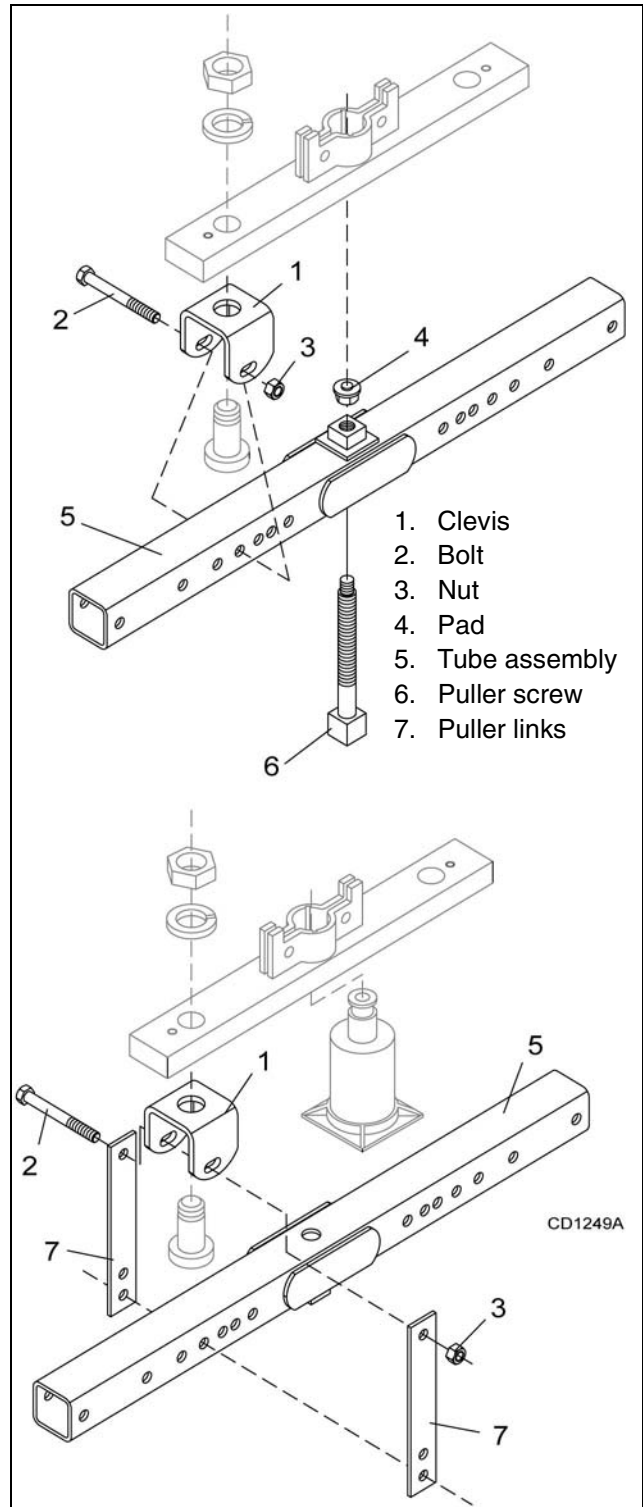

Figure 15. Crossbar Removal
NOTE: You will need to use either the puller screw (Item 6, Figure 15) or a small hydraulic jack to remove the crossbar.
3. **Refer to Figure 15.** Remove retaining wire from bottom of crossbar and remove nut and washer.
4. Attach a clevis (1) to each end of crossbar, using blade pins, washers, and nut.
5. Position tube assembly (5) with threaded nut toward crossbar for puller screw removal or down for hydraulic jack removal.
6. For removal with puller screw, attach tube (5) to each clevis with bolts (2) and nuts (3). Place pad (4) in nut and thread puller screw (6) into nut from bottom. Tighten until pad is solid against gearbox shaft. For best results, strike head of puller screw with a hammer while tightening with a wrench.
7. For removal with a jack, attach tube to each clevis with puller links (7), bolts (2), and nuts (3). Place